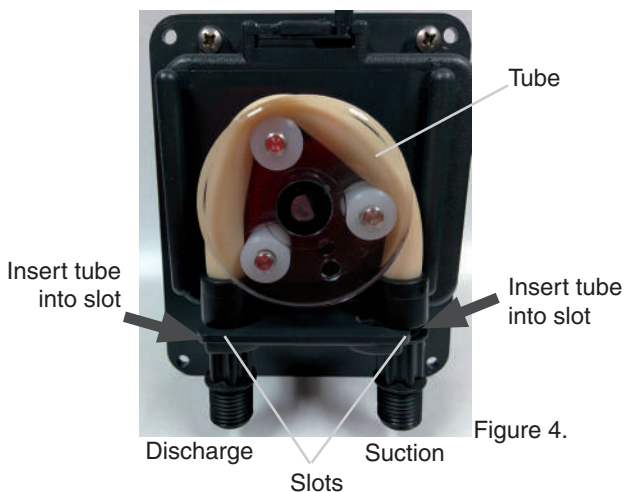

Figure 4.
1. To install new tube, insert one fitting into slot, pull tube around the center of the roller assembly and insert second fitting into the other slot. See Figure 4.